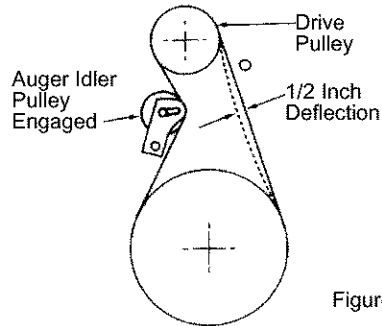

Figure 30
5. Press the auger drive lever. Check the tension on the belt (opposite **auger idler pulley**). The belt should deflect about 1/2" with moderate pressure (See Figure 30).